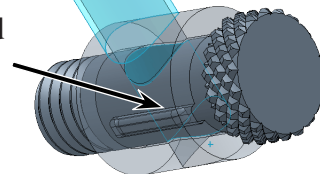

Fig. 19
Step 5. The key in Bolt should align with key-way in Tube, Fig. 19. If positioned in opposite direction, click